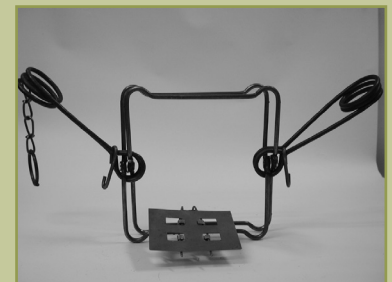

Figure MT7b. Bodygrip trap with pan trigger
- Selectivity features: Use of double strike technology incorporating a pan trigger (Figure MT7b) may improve trap performance for capturing marten.
- Selectivity features: Use of double strike technology incorporating a pan trigger (Figure MT7b) may improve trap performance for capturing marten. Traps were fitted with pan triggers during field testing.